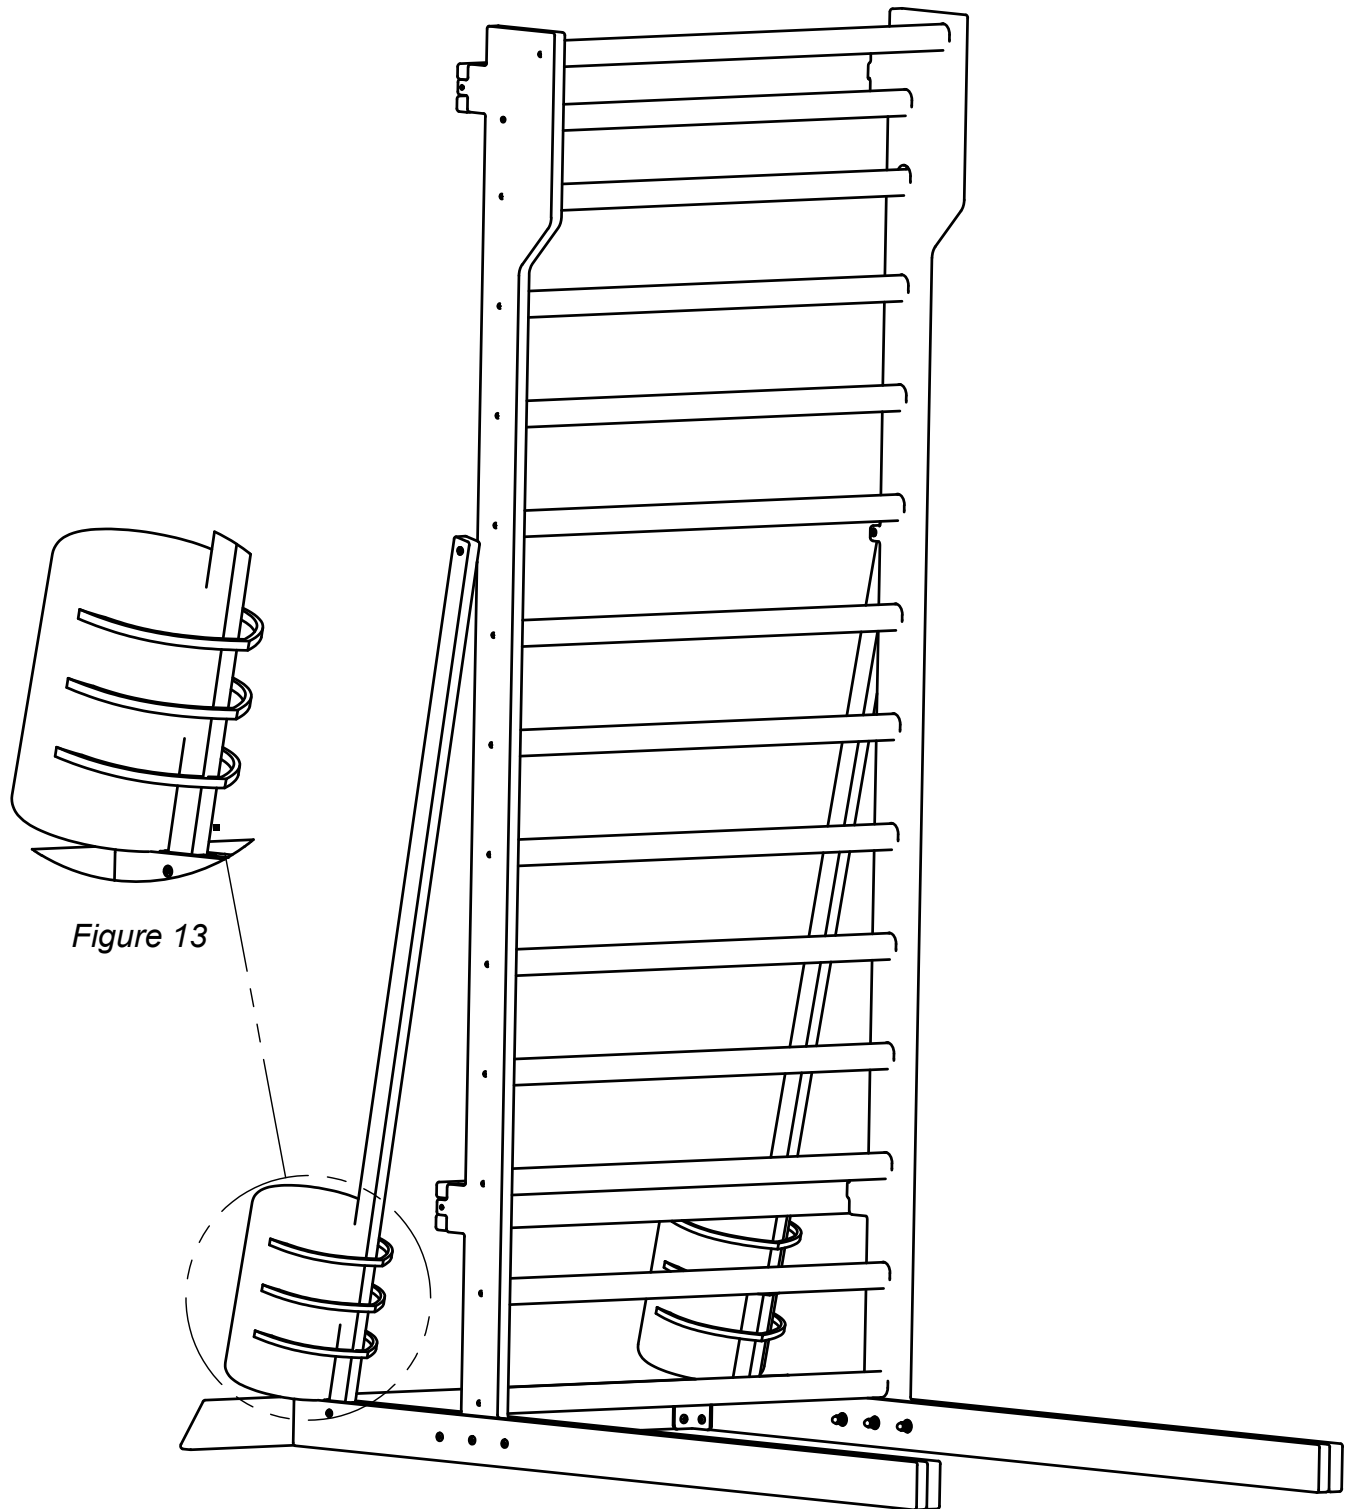

Figure 13
STEP 14: Now that the upper and lower assemblies are attached and fully tightened you can fill up (P) weight bags with either sand or water* and strap to (M) diagonals while resting on the base assembly. (*Figure 13*)